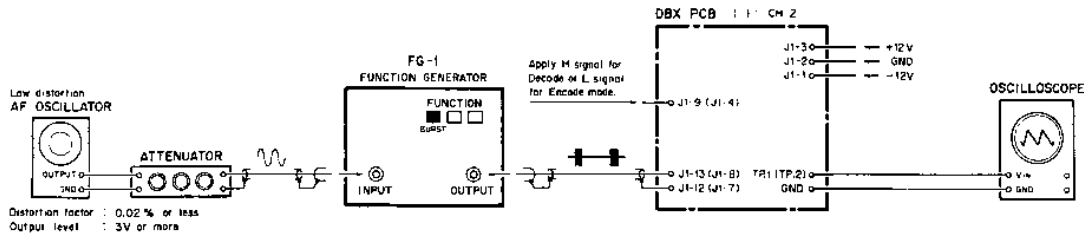

FIG. 41. RELEASE RATE ADJUSTMENT
E. Release Rate Check (Connections: Fig. 41)